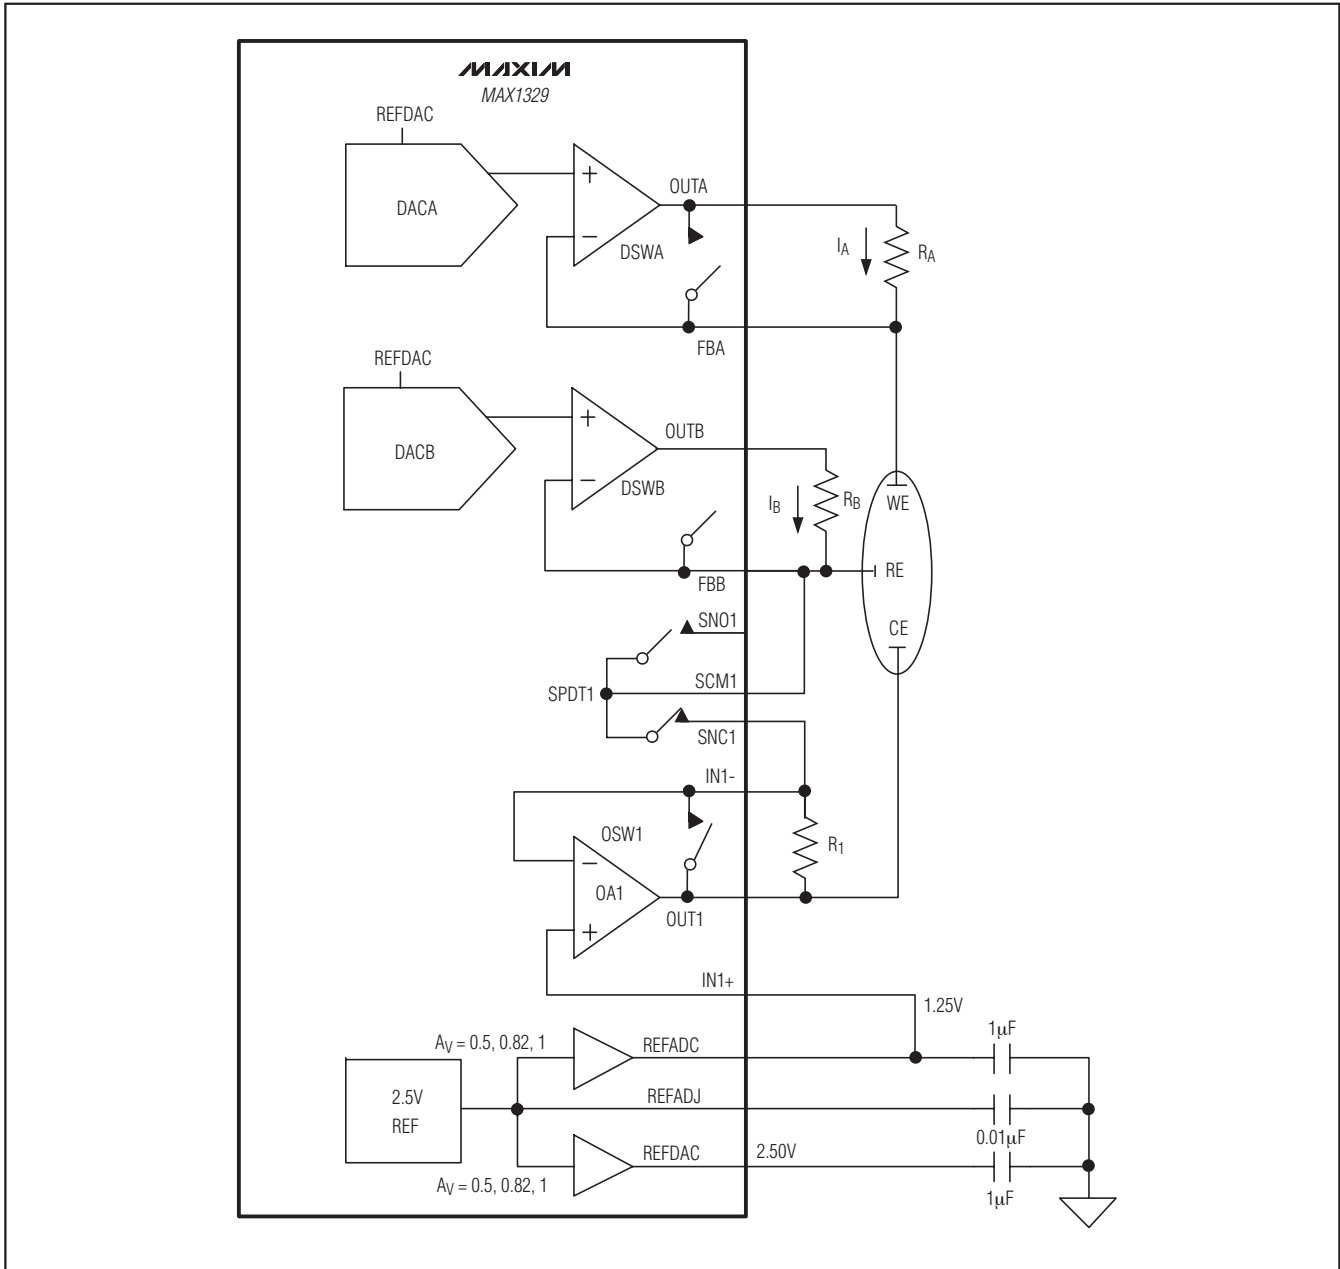

Figure 29. Three-Electrode Potentiostat Software-Switchable Single- or Dual-Channel Connection
The MAX1329 is used in a software switchable single- or dual-channel three-electrode potentiostat application (see Figure 29). In both configurations, the DAC buffer feedback switches, DSWA and DSWB, are normally open but can be closed during high sensor current to keep the DAC buffer outputs compliant. In the dual-channel configuration, the SPDT1 switch is open and the OSW1 switch is closed. DACA biases the working electrode (WE) and DACB biases the reference electrode (RE) both relative to the counter electrode (CE). The CE is shared by the two channels. In this configuration, RE is really a second working electrode and I_A and I_B are the two sensor currents being measured. I_A and I_B are converted to voltages through R_A and R_B and measured by the internal ADC. In the single-channel configuration, the SPDT1 switch is closed and the OSW1 switch is open. DACA biases the WE relative to the RE and the RE is set by IN1-. Op amp 1's force-sense configuration holds RE constant while the CE swings up and down depending on the sensor current and the sensor impedance. In this configuration, I_A is the sensor current being measured. The R₁ resistor is typically a large value to keep op amp 1 stable when the sensor is not present or not active.